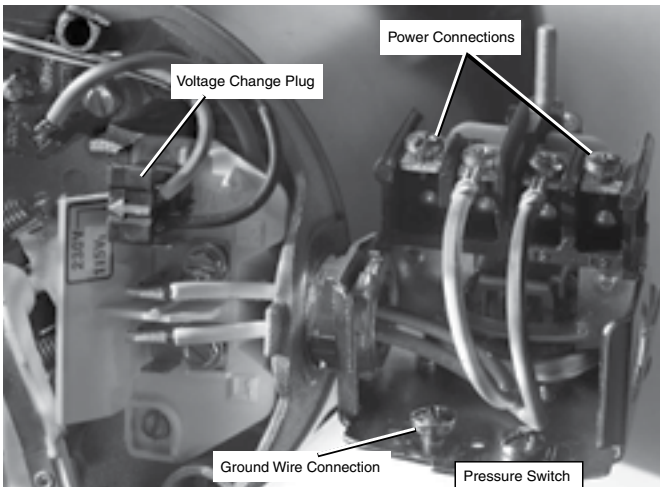

Figure 8: Voltage set to 230 volts, Plug Type
4. Attach the incoming power leads to the two outer screws on the pressure switch as shown in Figure 8.
5. Attach the ground wire to one of the grounding connections, shown in Figure 8.